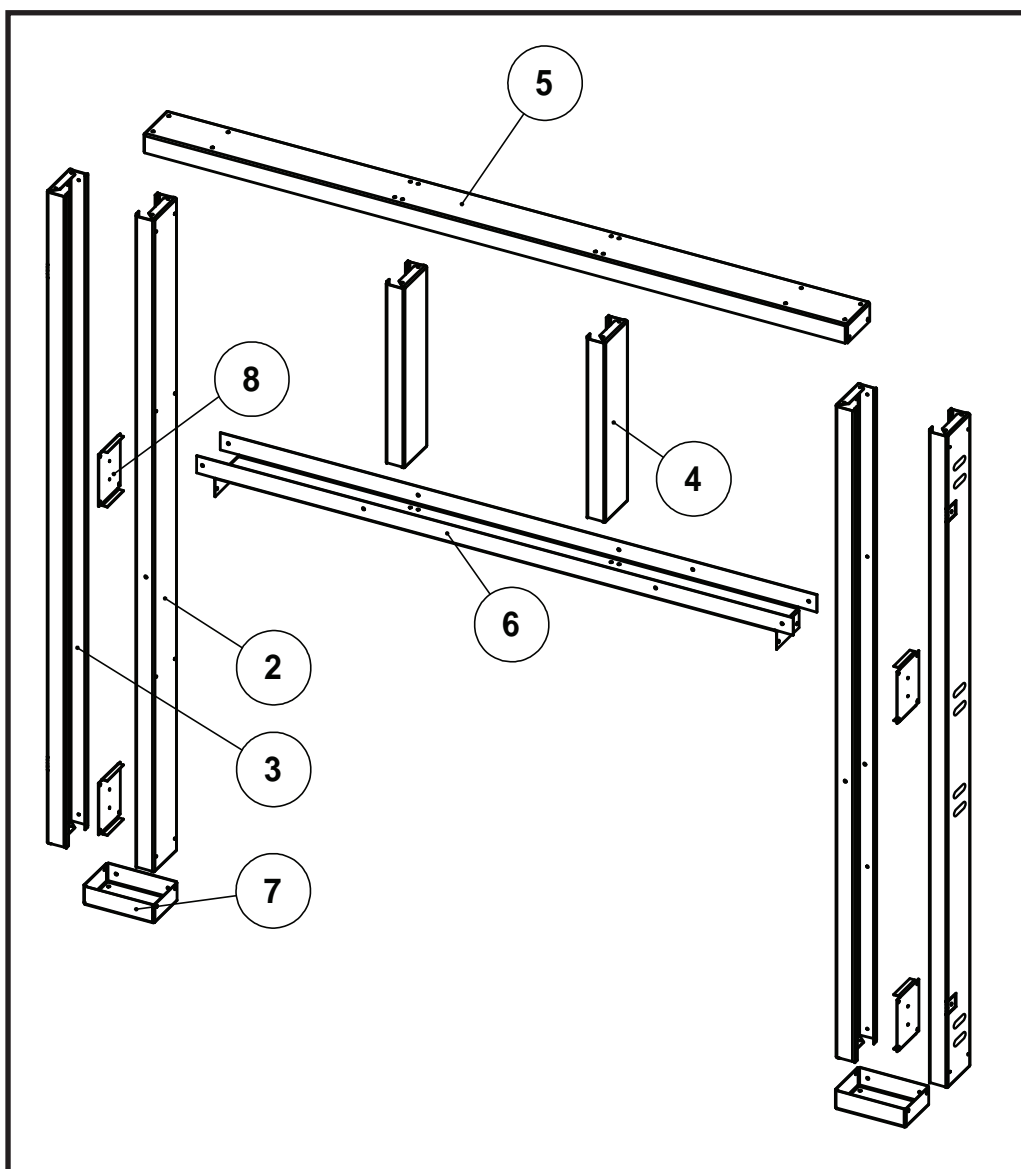

Figure 15: TC42D2 Steel frame parts.
Lay out the horizontal header stud (5) on a large flat surface. (Position all pieces on their narrow edges as shown in the illustration (Figure 15).